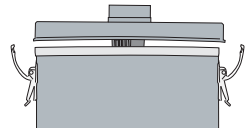

figure 9
3. Unlatch the two clips and remove lid (**figure 9**).